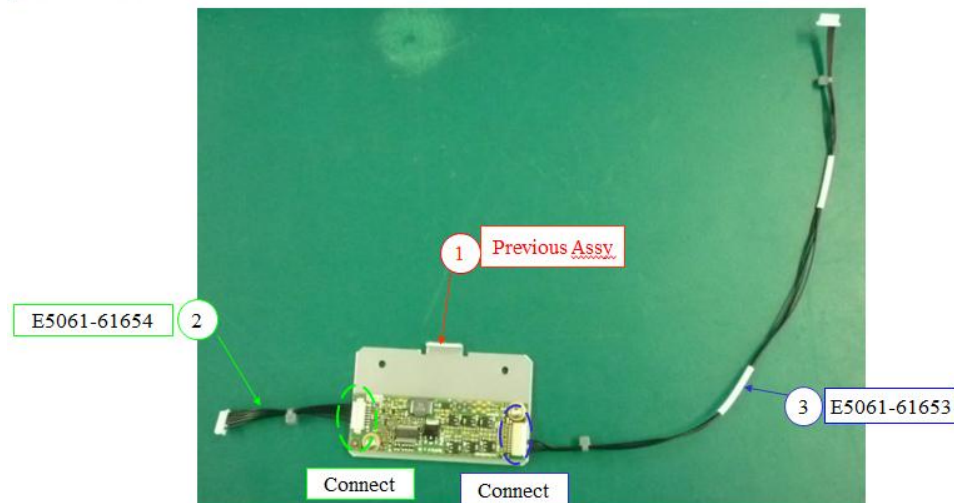

Figure 1-4
3. Install the inverter on the bracket before connect the cable assembly to both ends as shown in figure 1-4